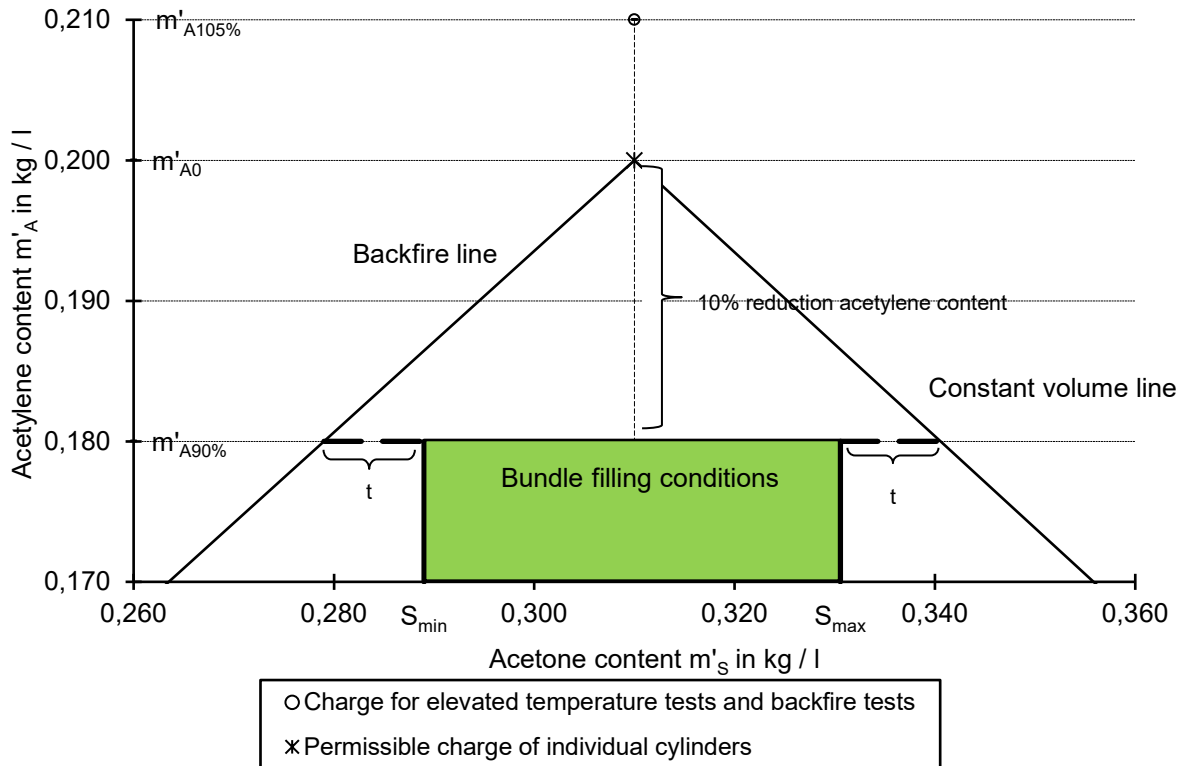

Figure 4: Example for filling conditions for acetylene bundles according to EN ISO 13088 [5]
Equation (5) is called the constant volume line. Filling conditions on this line have the same volume but a lower acetylene/solvent ratio than the permissible filling conditions for single cylinders (see figure 4). Therefore the filling conditions on and below this line shall be considered safe as well.
The acetylene/solvent ratio m_{A0} / m_{S0} as given by the permissible filling conditions for single cylinders is known to be safe as it passes the backfire test. Filling conditions with the same acetylene/solvent ratio are given by the line connecting the permissible filling conditions for single acetylene cylinders and the zero point (see Figure 4). Therefore, the filling conditions on and below this line shall be considered safe as well. This gradient is called the backfire line and is described by:
In order to keep acetylene cylinders within the "triangle" of safe filling conditions as given in figure 4 and to allow for a tolerance of the solvent content, the acetylene content shall be lower than the maximum permissible acetylene content.
Filling conditions for acetylene bundles determined as described earlier are in accordance with EN ISO 13088 if the single cylinders are approved according to EN ISO 3807 [5, 1]. An example is shown in Figure 4.